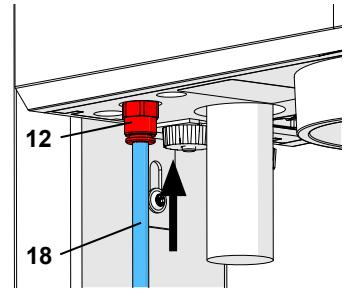

Fig. 5-a
**!** In previous devices, the inlet filter (13) was situated outside the device (Fig. 5-b). In these cases, push the compressed air hose (18) onto the inlet filter (13). There will be a slight resistance to overcome when attaching.